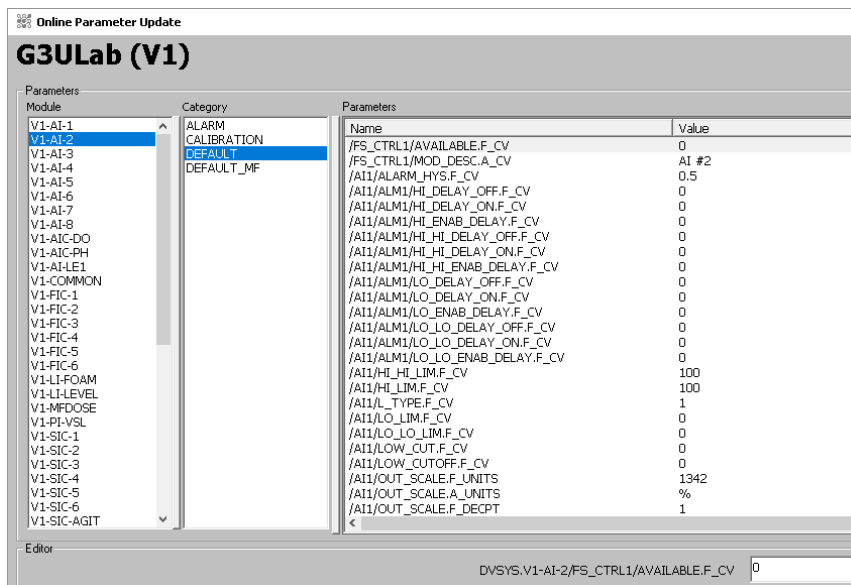

Figure 4.43. “Default” selected in “Category” column.
2. Verify that the correct vessel is displayed and click **Default** in the “Category” column (Figure 4.43).